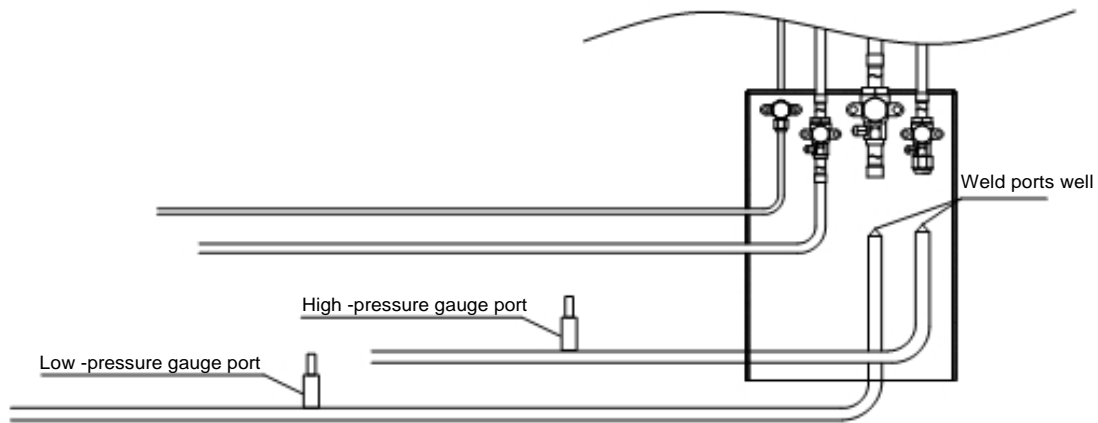

Fig 6 4 : Air tightness test
- ② Connect the low -pressure tubing with the gauge port and then weld them , refer to Fig 6 4 ;
- ③ Charge some Nitrogen gas from gauge ports of low -pressure meter and high -pressure pipes and then do the air tightness test ;